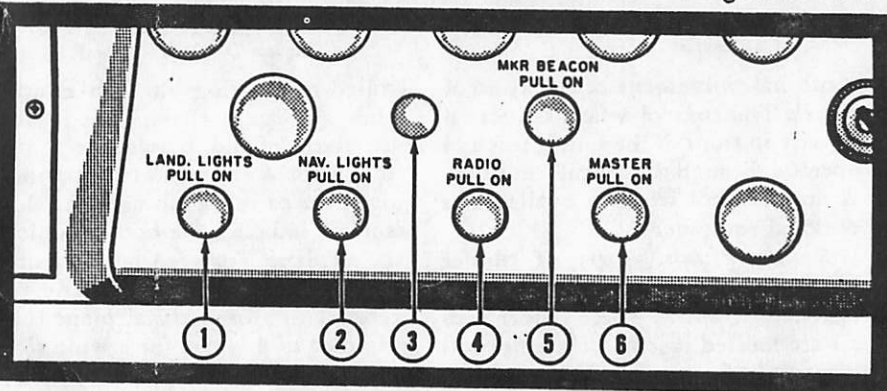

Figure 2. Electrical Switch Panel
21. Electrical Switch Panel (See figure 2)
Master Switch. The master switch (6, figure 2) is the first knob to the left of the cigarette lighter. Switch positions are "ON" (out position) and "OFF" (in position). When the master switch is turned "ON", a solenoid switch is energized and the electrical power of the battery is admitted into the electrical system. In event of a short or malfunctioning of the airplane electrical system, the master switch may be turned off and the engine will con-
left wing tip, a green light on the right wing tip, and a white light on the trailing edge of the rudder. The navigation light switch (2, figure 2) is mounted on the instrument panel. To turn the navigation lights on, pull the navigation light switch out. To turn the lights off, push the switch in.
Landing Light. (Optional Equipment). The landing light consists of two lamps mounted side-by-side in the leading edge of the left wing. One of the lamps is adjusted to give proper illumination of the runway during landing and take-off while the other lamp is set to provide illumination of the ground for taxiing purposes. The landing light switch (1, figure 2) is mounted on the instrument panel. To turn the taxi light on, pull the switch out to the first stop. To turn both the landing light and the taxi light on, pull the switch out to the second stop. To turn lights off, push the switch all the way in.